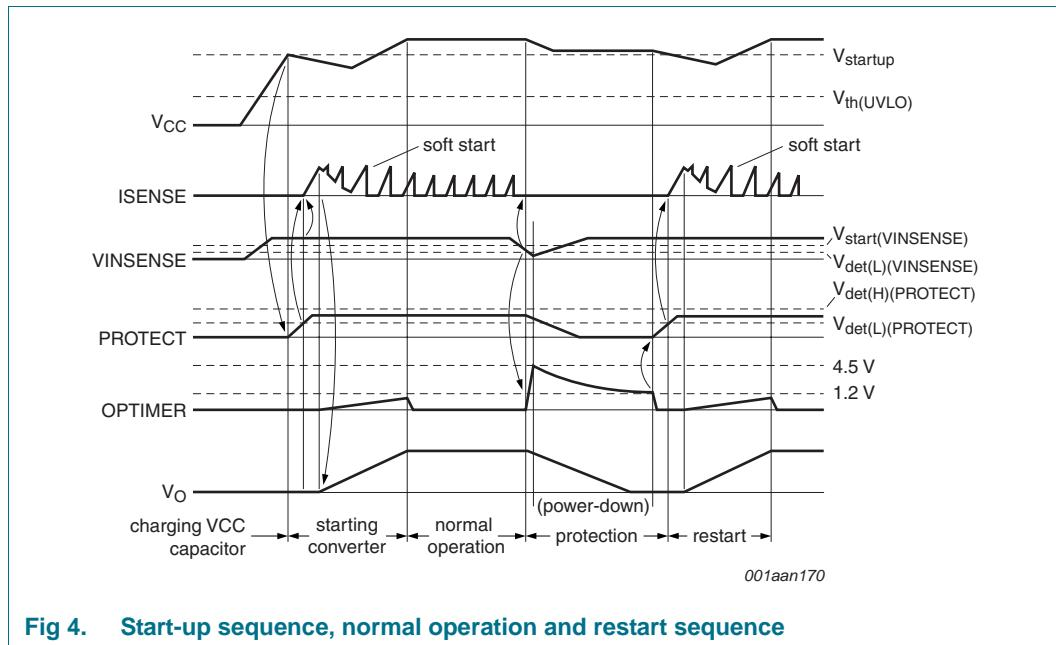

Fig 4. Start-up sequence, normal operation and restart sequence
A restart caused by a protection rapidly charges the OPTIMER pin to 4.5 V (typical). The TEA1738(L) enters Power-down mode until the OPTIMER pin discharges down to 1.2 V (typical). In Power-down mode, the IC consumes a very low supply current (10  $\mu$ A typical) and the VCC pin is clamped at 22 V (typical) by an internal clamp circuit. When the voltage on pin OPTIMER drops below 1.2 V (typical) and the VCC pin voltage is above the VCC start-up voltage (see Figure 4), the IC restarts.